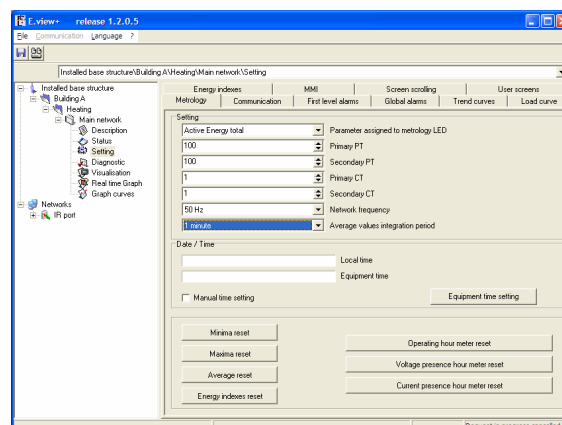

Figure 18-18: summary of "Setting/Metrology" tab and of the zone for defining the integration period.
- **Receiver average:** average value of quadrants 1 and 4 integrated during the period defined in the *Setting/Metrology* tab (see paragraph 16.15.1.7, page 84 or in Figure 18-18).